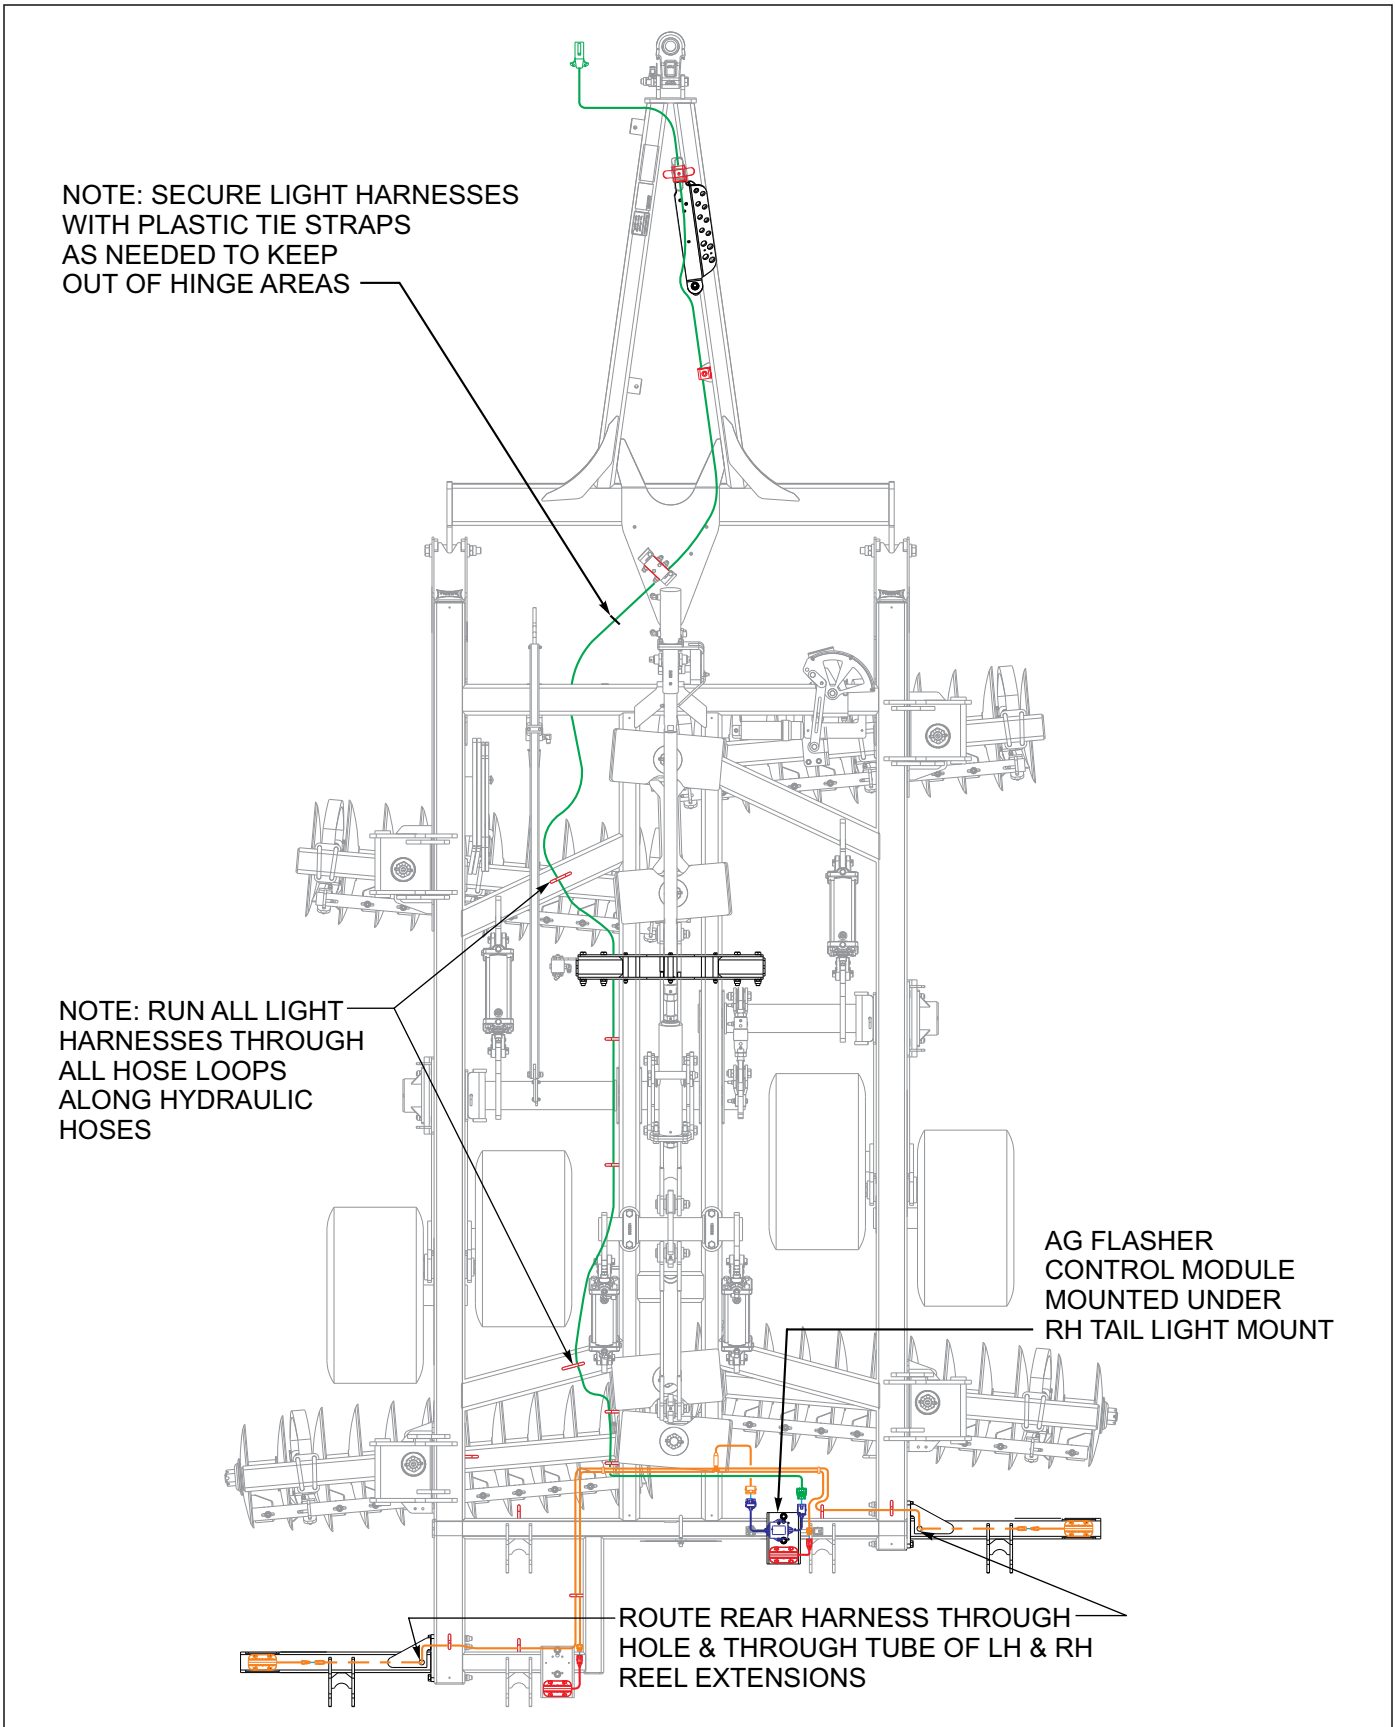

Figure 3-15: LED Light Layout
5. Install the rear warning light harness to the frame. Refer to (**See Figure 3-15.**) for light harnesses routing. Connect 2 pin and 3 pin ends to each of the warning lights. Connect 6 pin to the ag flasher control module. **See Figure 3-13 for LED harness wire designations.**